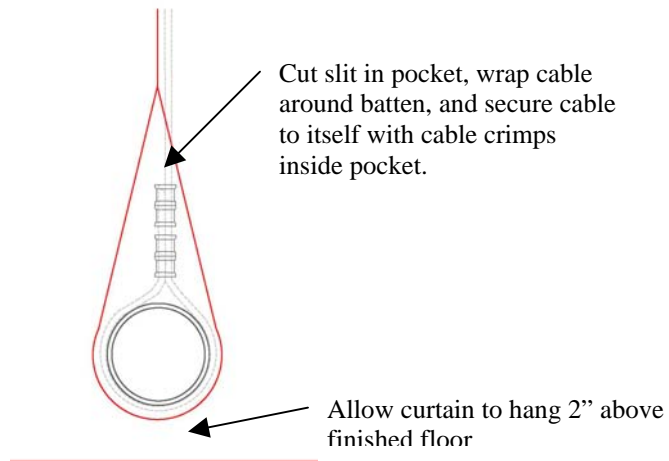

Figure 5. Illustration of the proper method for securing the cables.
4. When the cable has been threaded through the grommets, cut a slit in the bottom vinyl to allow the cable to wrap around the bottom batten. Use the cable crimps provided and your cable-crimping tool to secure the cable to itself. To make the installation as clean as possible, it is advisable to place the crimps as close to the batten tube as possible, inside the vinyl pocket. Please see figure 5 for an illustration of the correct method.